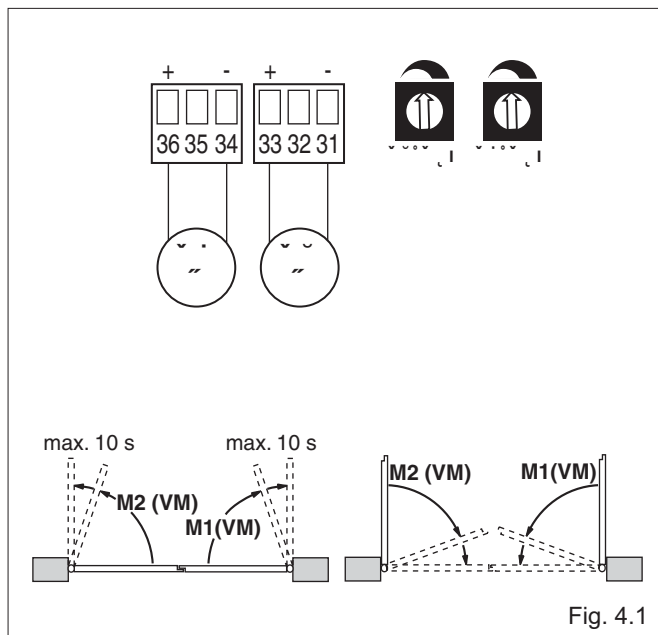

Fig. 4.1
- (Fig. 4.1) **Use without limit switches**